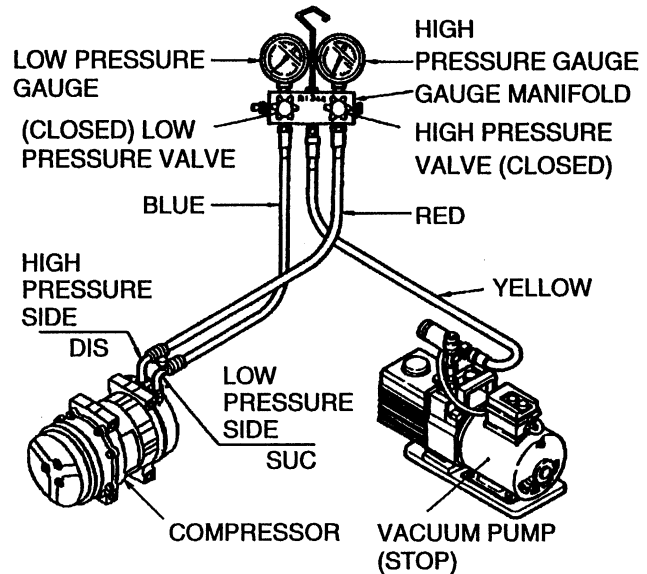

Fig. 25 Connecting gauge manifold
(1) Connecting Gauge Manifold (See Fig.25.)